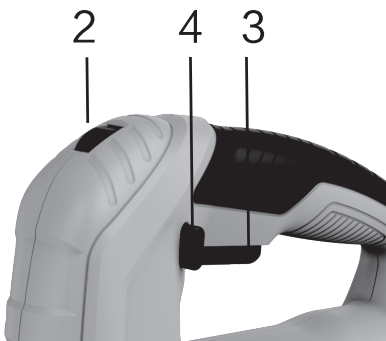

FIG.3
Switch on and off(See Fig. 3)
Variable speed (See Fig. 3)
1. By turning the speed adjustment dial (2) forward or backward, you can get the variable speed.
3. Position "1" denotes the lowest speed. Position "6" denotes the highest speed. (See Fig. 3)